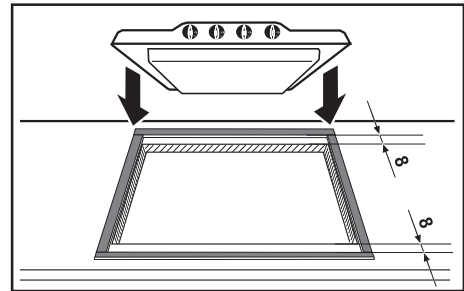

Fig. 9
2. Put the relevant sealings, supplied with the hob, on the side edges of the cut out and at 8 mm from the front and rear edges, as shown in Fig. 9, taking care that the sealings meet without overlapping.